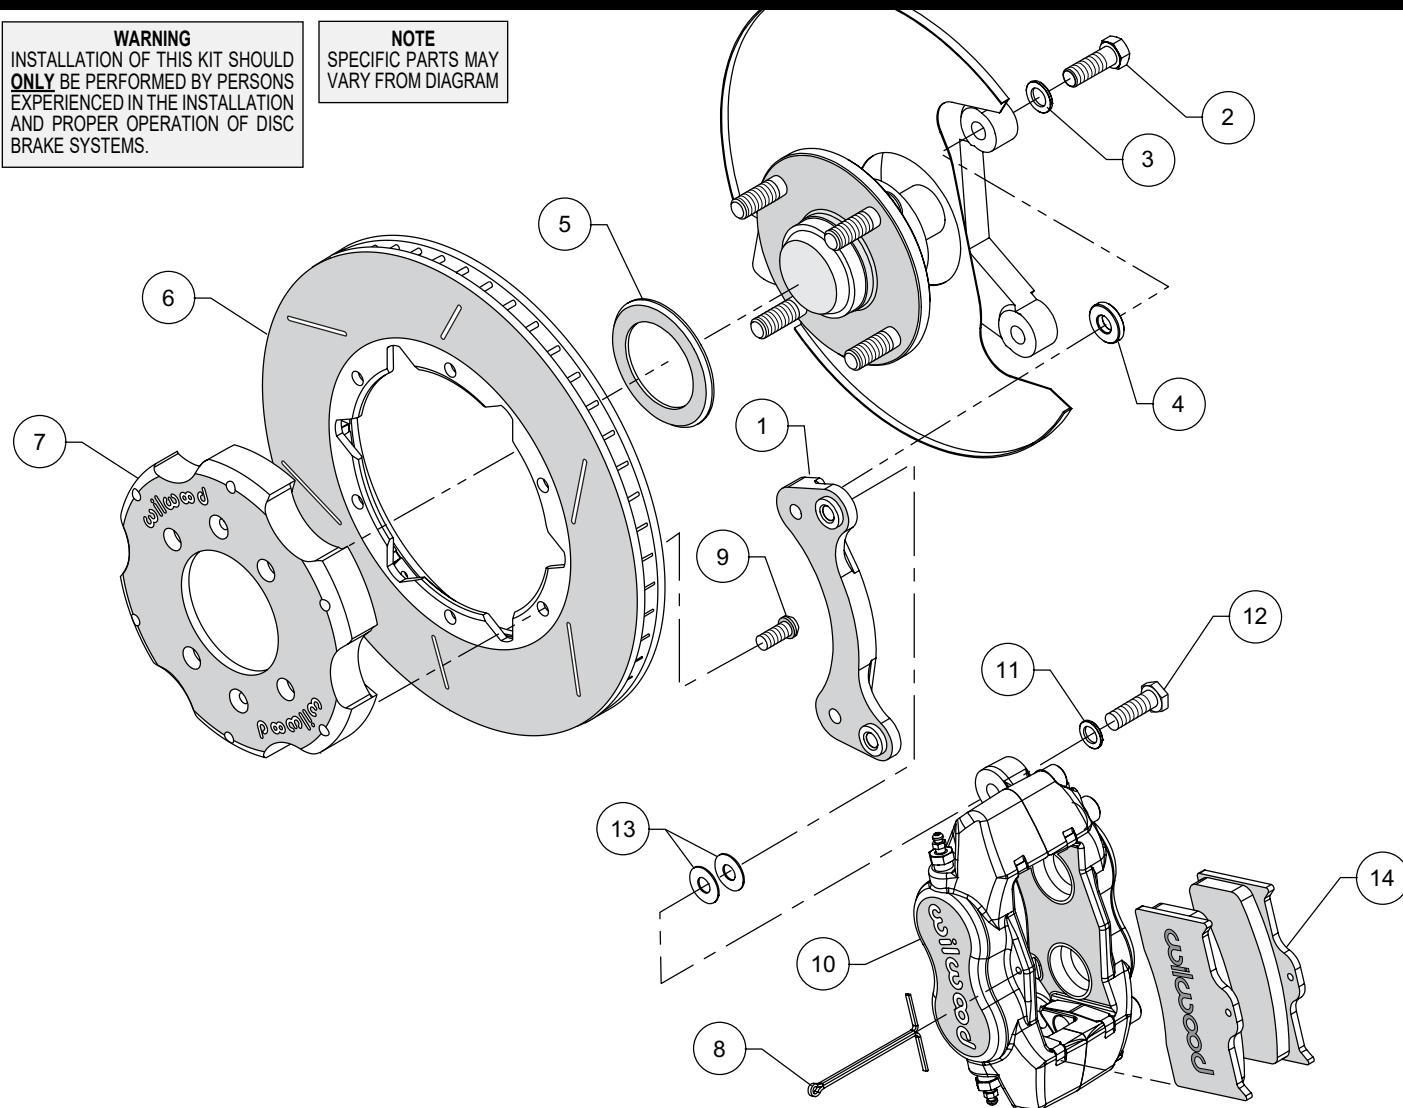
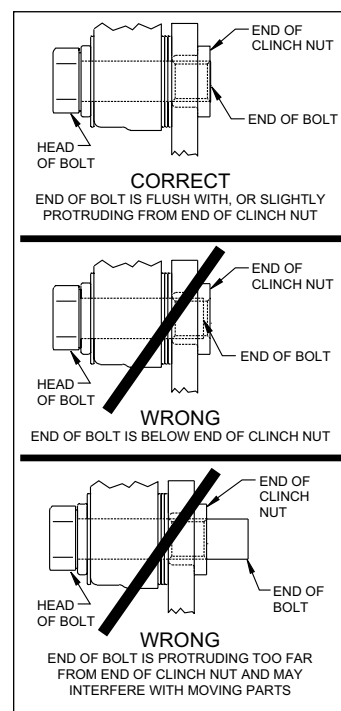

Figure 1. Typical Installation Configuration
Figure 3. Clinch Nut Engagement Diagram
NOTE: Numbers in parenthesis refer to the parts list and Figure 1 on the preceding pages.
CAUTION: All mounting bolts must fully engage clinch nuts. Be sure to check that all bolts are either flush or protruding through flanged side of clinch nut after shimming, Figure 3.
- Orient the caliper mount bracket (1) as shown in Figure 1 and Photo 1, and install using bolts (2) and washers (3). Place a spacer (4) on each bolt between the bracket and caliper mounting bosses, Figure 1 and Photo 2. Ensure that the flanged heads of the clinch nuts in the bracket are facing outboard, Photo 1. Temporarily tighten the mounting bolts. **NOTE:** The bracket must fit squarely against the mount bosses on the upright. Inspect for interference from casting irregularities, machining ridges, burrs, etc. Remove bolts one at a time, apply red *Loctite*® 271 to the threads and torque to 30 ft-lb.
- Orient the rotor (6) and the hat (7) as shown in Figure 1 and Photo 3. Attach rotor to hat using bolts (9). Apply red *Loctite*® 271 to the bolt threads and torque to 25 ft-lbs using a criss-cross pattern.
- Slide the rotor registration adapter (5) onto the axle register on the axle hub with the smaller O.D. facing toward the rotor/hat (6/7), Photo 4. Slide the hat/rotor assembly onto the axle hub. **NOTE:** The hat must fit flush against the axle hub flange or excessive rotor run out may result. Install three lug nuts (finger tight) to keep the hat/rotor assembly in place while continuing with the installation.
- NOTE:** Please reference the caution statement at the beginning of the assembly instructions. Mount the caliper (10) onto the caliper mounting bracket (1) using bolts (12) and washers (11), as shown in Figure 1. Initially place two .035" thick shims (13) on each bolt between the caliper and the bracket, Photo 5. Temporarily tighten the mounting bolts and view the rotor (6) through the top opening of the caliper. The rotor should be centered in the caliper, Photo 6. If not, adjust by adding or subtracting shims between the bracket and the caliper. Always use the same amount of shims on each of the two mounting bolts. **NOTE:** The end of each bolt must be flush with or slightly protruding from the head of the clinch nut, as shown in Figure 3. If necessary place spare shims between washer (11) and caliper mounting ear to achieve the proper clinch nut engagement. Once the caliper alignment and clinch nut engagement are correct, remove the bolts one at a time, apply red *Loctite*® 271 to bolt threads, and torque to 40 ft-lb.
- Install the disc brake pads (14) into the caliper, with the friction material facing the rotor (6), Photo 7. Secure pads in place using cotter pin (8), Photo 8.